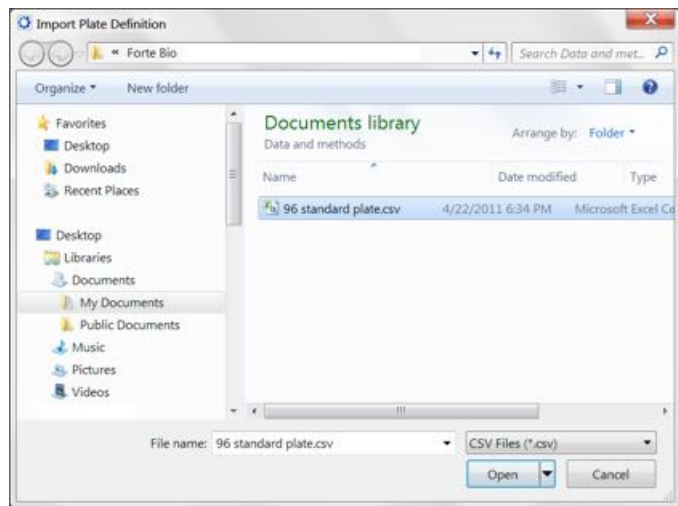

Figure 6-24: Import Plate Definition Window
2. In the **Import Plate Definition** window (see Figure 6-24), select the plate definition (.csv), and click **Open**.